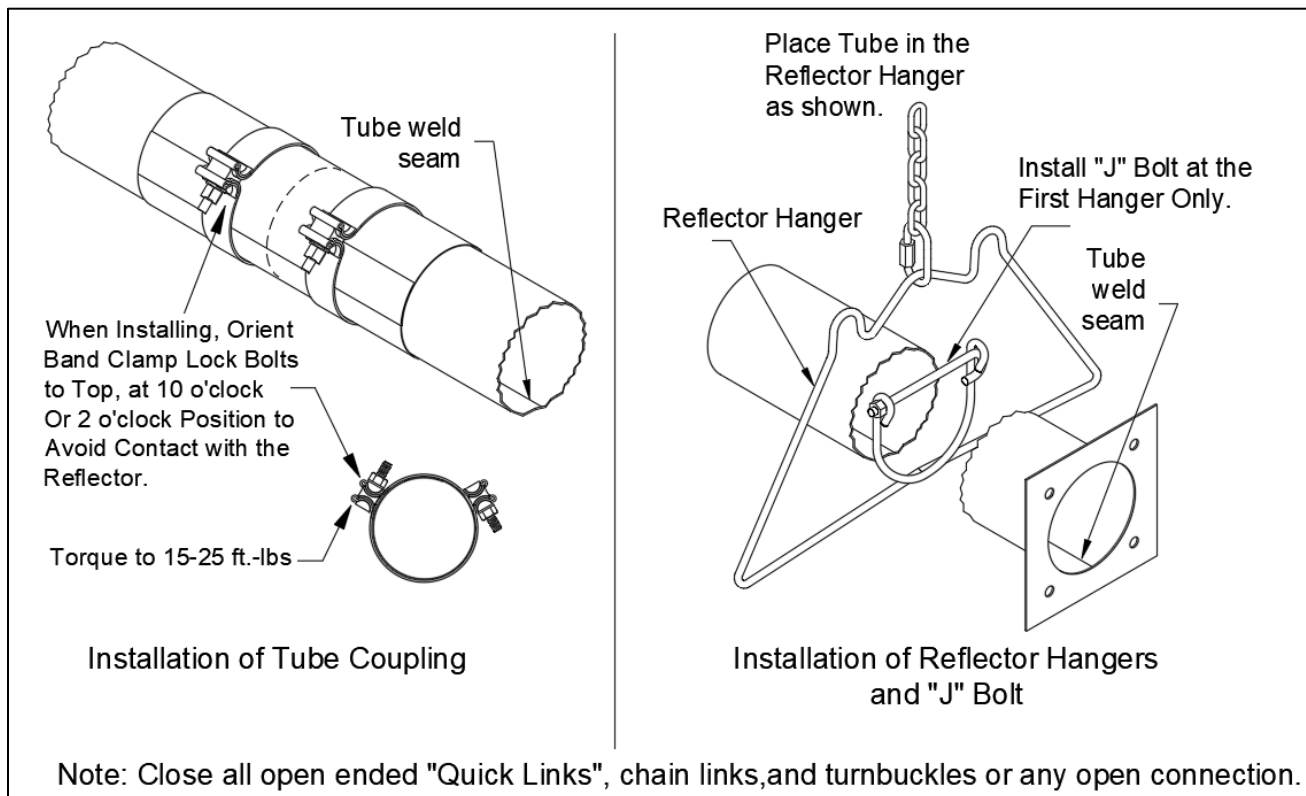

Figure 10: “J” Bolt and Coupling Installations
- Tighten the cradle loops of the first hanger with the “J” Bolt found in the burner box, to snugly hold the combustion tube from rotating see Figure 10.
Note: In order to obtain smoothly sealed coupling liners, tighten each of the coupling bands progressively and alternately. Tightening one band completely before the other may result in an undesirable wrinkle in the liner (refer to Figure 10). **Be sure not to over torque the coupling. (Torque coupling to 15-25 lbf-ft).**